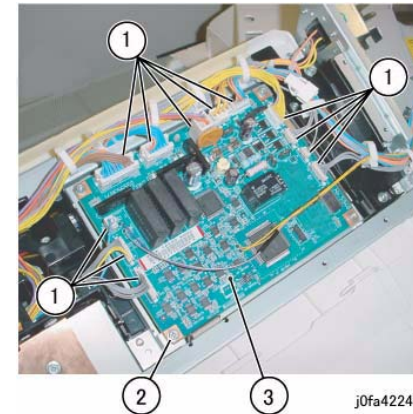

Figure 1 Removing the Finisher PWB
5. Remove the Finisher PWB (Figure 1):